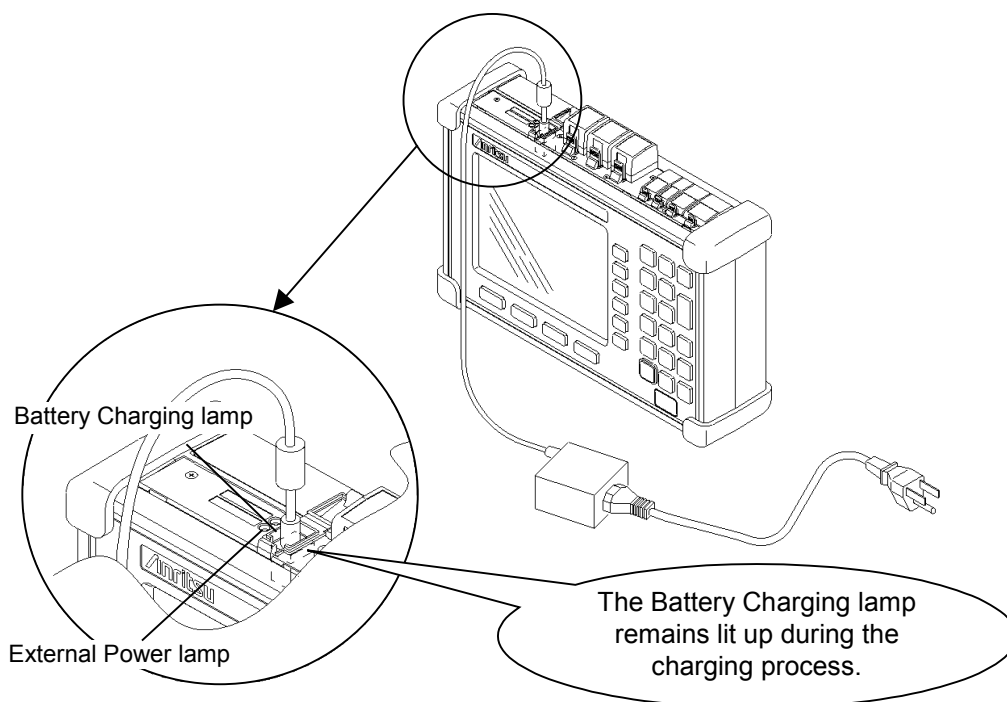

Fig. 2.3.2-1 Charging battery pack
2. Connect the supplied AC adapter to the DC Input connector of the MT9080 Series. Plug the power plug into the outlet. Refer to Fig. 2.3.2-1.